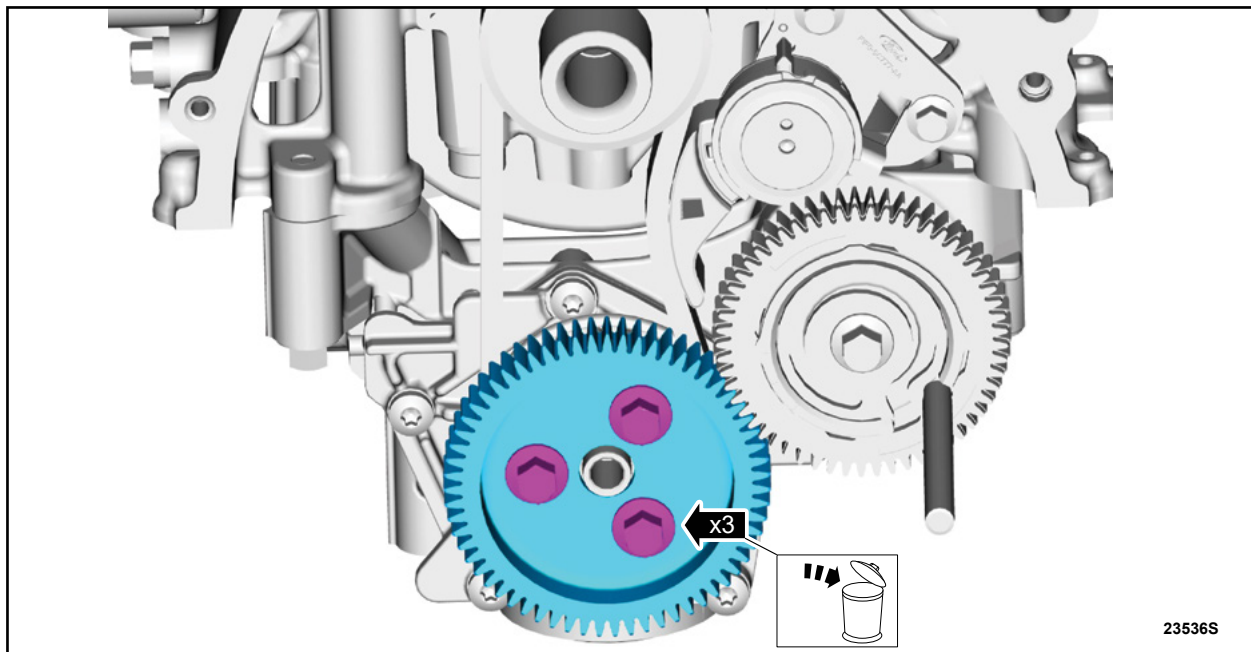

FIGURE 20
26. Remove and discard the bolts. Then, remove the oil pump gear. See Figure 20.